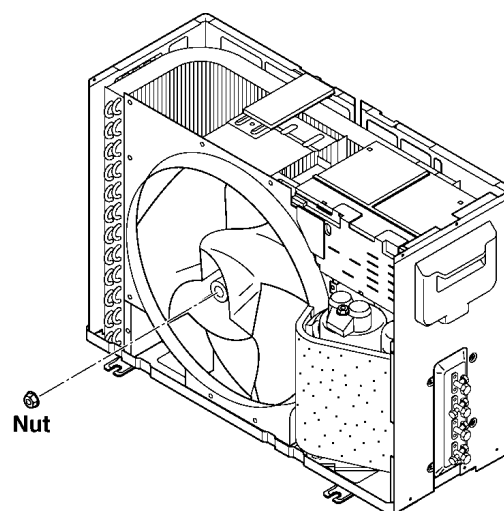

Fig. 28
2. Remove the propeller fan by rotating the nut at the center of the fan to the right. (Fig.28)